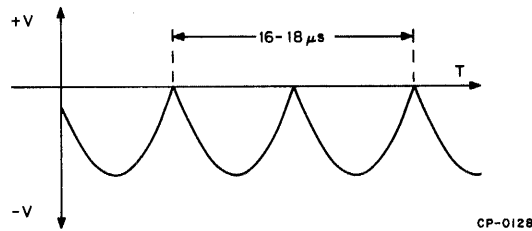

Figure 5-8 Compressor Waveform for REW
9. Initiate rewind tape motion and measure the compressor waveform for a double-period of 16–18  $\mu$ s (Figure 5-8).